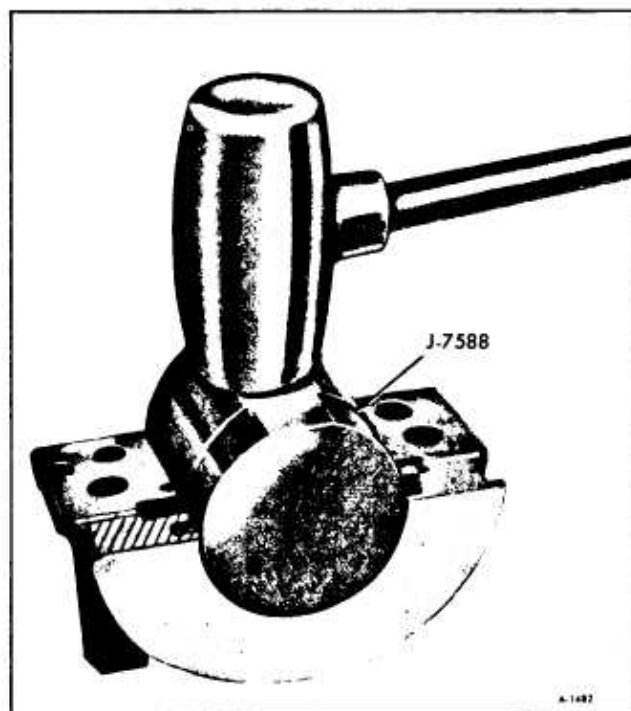

Figure 71—Installing Rear Main Seal—Lower Half
2. Using seal installer J-7588 hammer seal into groove. (See figure 71).
4. Apply sealer on shaded areas of Figure 71.